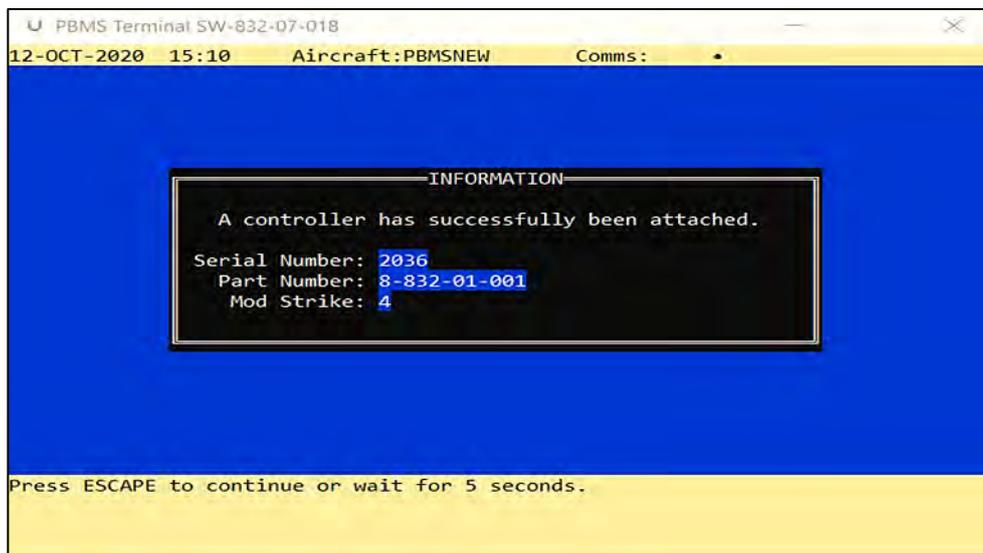

Figure 3-11 Information Screen
- (3) The Information screen (**Ref Fig 3-11**) will show the Serial Number, Part Number and Mod Strike of the controller that has been successfully attached. Press Escape or wait 5 Seconds to continue.